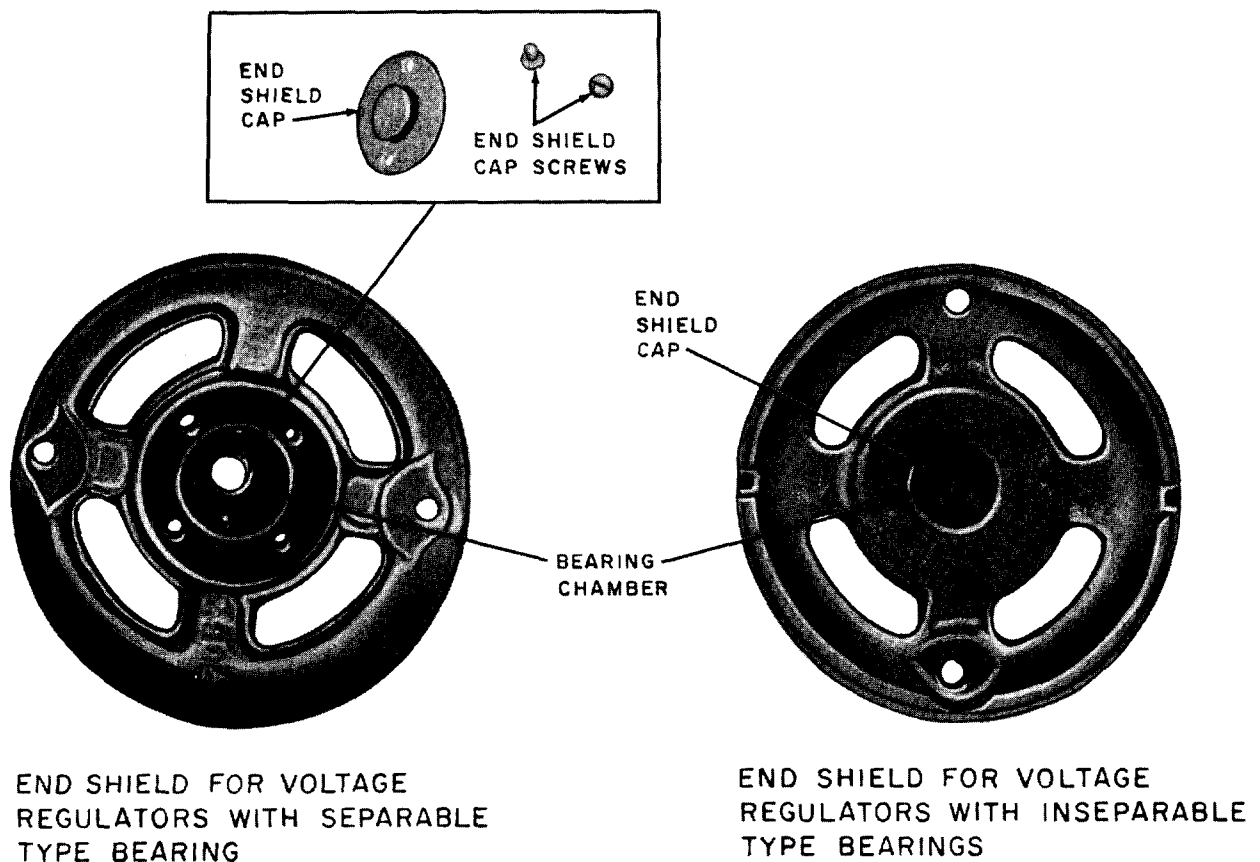

Fig. 8—End Shields—Two Types
- (4) To clean and repack a motor bearing, remove the bolts holding the end shield in place and pry the end shield off by inserting a screwdriver in the slots between the frame and end shield. Remove the armature from the end shield and frame and wipe with a cloth. Clean out of the bearings as much of the old grease as possible with an orange stick and clean cloth. Wipe as dry as possible with a clean dry cloth and relubricate. Before reassembling, wipe the bearing chamber (Fig. 8) with a cloth on which there is a small amount of grease. Apply fresh grease around the balls, filling the space between the inner and outer ball races flush with the sides of the races. Make no attempt to force grease into the spaces between the balls. Reassemble the armature and bearings in the frame.
- (5) In replacing the rotating element of the regulator, care should be taken to see that the setscrew registers on the spot on the shaft provided for that purpose. Replace the insulating cover. Draw the screws up evenly so as to relieve any strain on the cover. Insert all brushes in their respective brush holders.